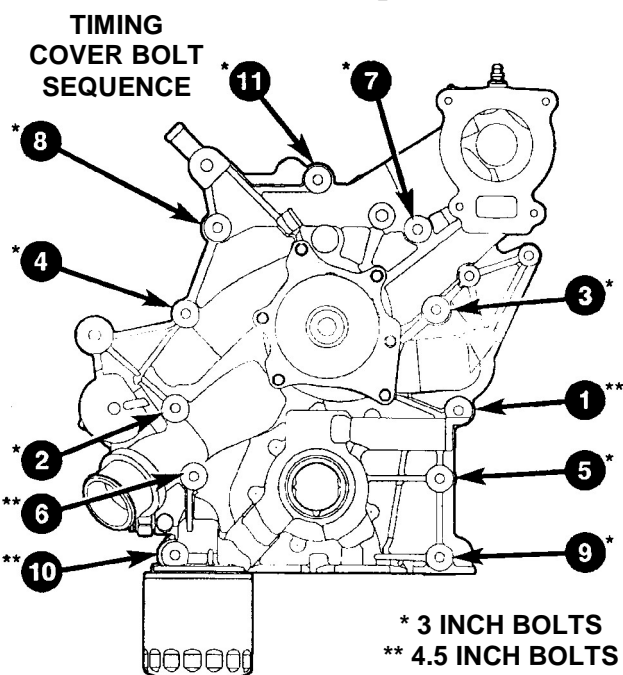

Figure 16
43. Install all timing chain cover bolts and tighten to 100 in-lbs (11 N·m) using the sequence shown in Figure 16, then using the same sequence, tighten the bolts to 200 in-lbs (22 N·m).